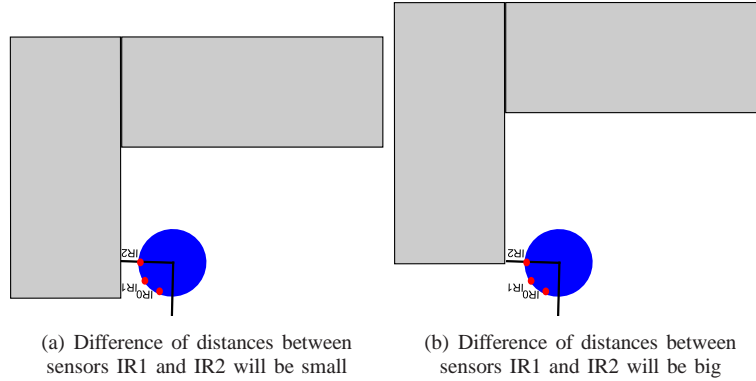

Figure 7. Introduction of the distance sensors criteria
The state 2 allows to the robot to follow the object. In order to check if the robot is as in the condition shown on the figure 7(a), the difference of distances between the sensors IR1 and IR2 is computed.
1) *Difference of distances small:* The case on the figure 7(a) shows the moment where the robot will follow the edge and the difference of distances of sensors will be small. The code which implements this part is presenting below:
2) *Difference of distances important:* A typical case is presented on the figure 7(b). The difference of the distances between sensors IR1 and IR2 will be very important. In order to have the adequate value of angle speed, we implemented three different case based on the minimum distance return by the sensors IR1 or IR2. The code implementing this task is shown below: